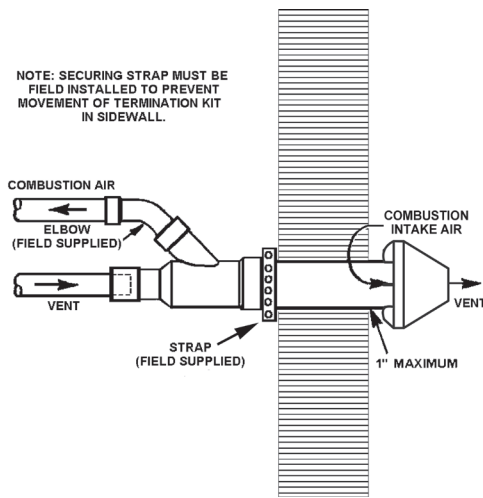

Figure 30
6. Ensure the Y connection is oriented so the air intake side of Y is on top, see Figure 30.
7. Secure assembly to structure as shown in Figure 30 using field-supplied metal strapping or equivalent support material.
8. Cement heater combustion-air and vent pipes to concentric vent termination assembly. See Figure 30 for proper pipe orientation and attachment.